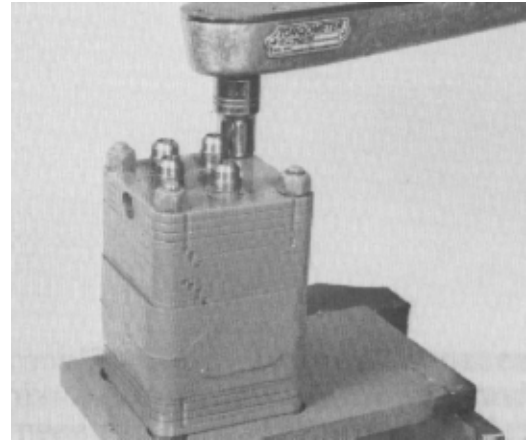
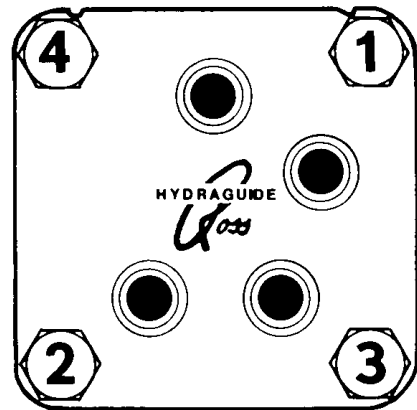

Figure 126
Figure 127
44. Install the lock nuts onto the bolts. Tighten each nut gradually until resistance is felt (Fig. 126). Tighten to a torque of 20 – 24 ft-lb (27 – 33 Nm) in the sequence shown (Fig. 127).